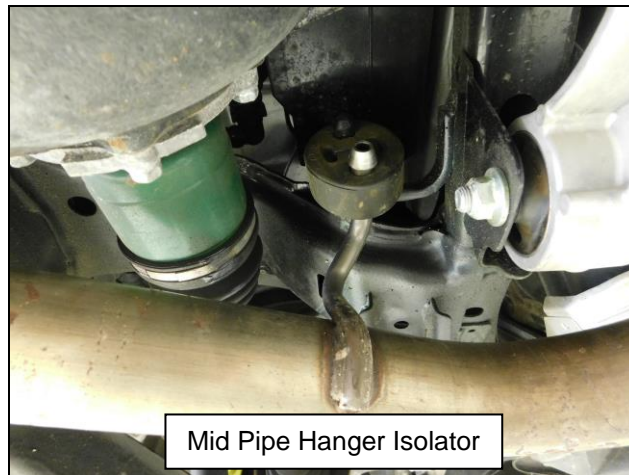

Figure 2
7. Remove the exhaust hanger isolator from the mid pipe just before the axle (**Figure 2**).